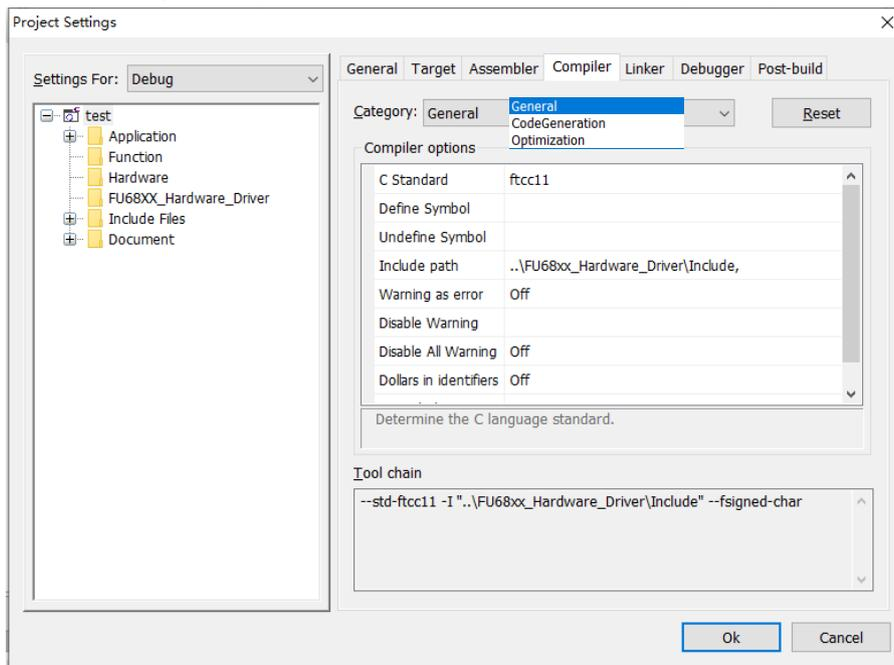

Figure 1-39
4. Compiler: Category has three categories: General, CodeGeneration and Optimization, as shown in Figure 1-39 below;